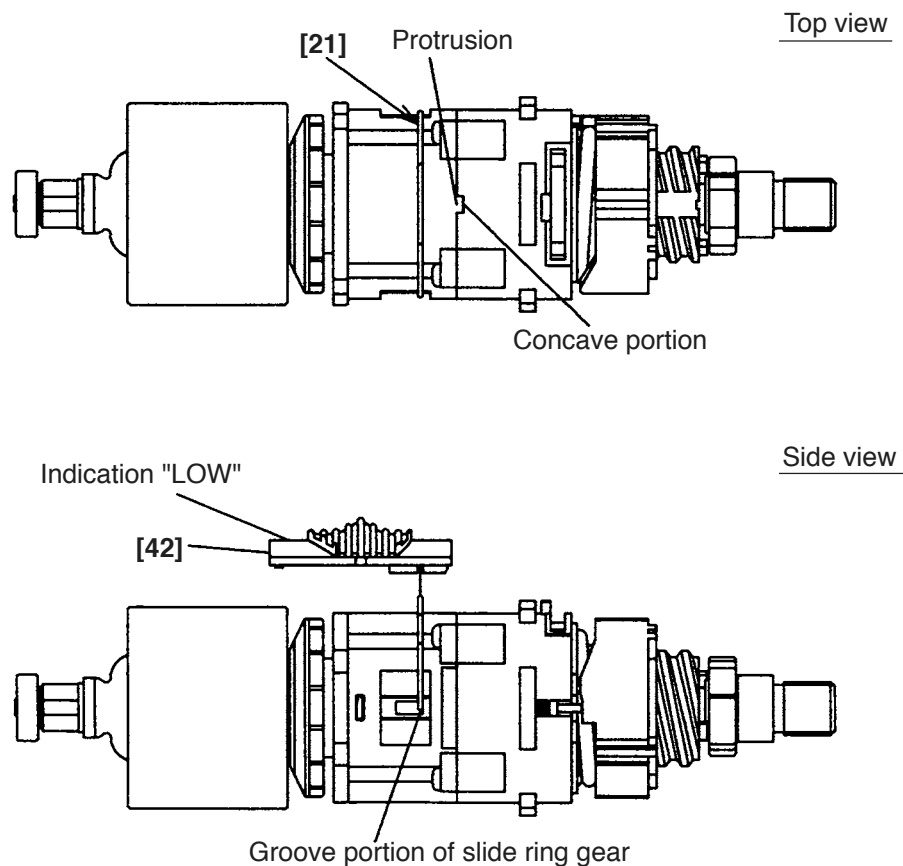

Fig. 15
- ⑤ Mount the Front Case [12] to the Rear Case [20] so that the concave portion of the Front Case [12] aligns with the protrusion of the Rear Case [20] (see Fig. 15).
- (b) Mounting the Shift Arm [21] and the Shift Knob [42] (see Fig. 15).